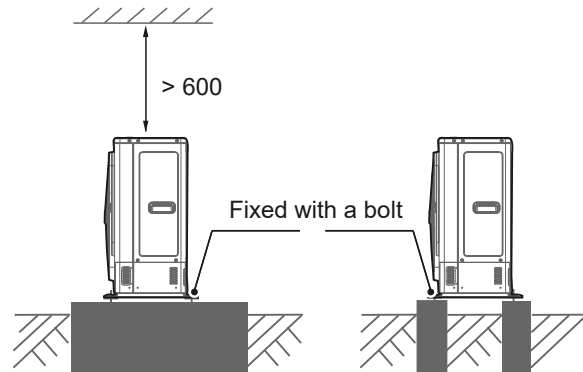

Fig. 5-1
- Make concrete foundation according to the sepecifications of the outdoor units.(refer to Fig.5-1)
- Fasten the feet of this unit with bolts firmly to prevent it from collapsing in case of earthquake or strong wind. (refer to Fig.5-1)